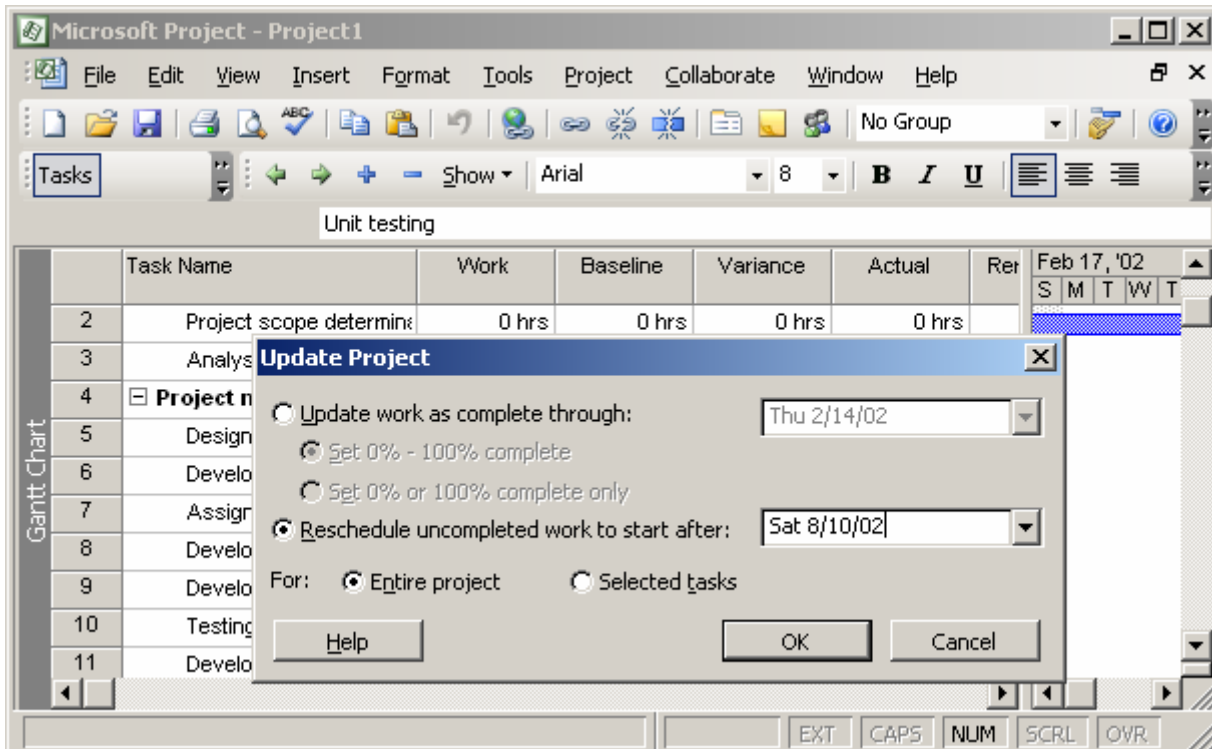

Figure 11.18: Rescheduling Tasks
5. Click the Update Project command on the Tracking submenu, to display the Update Project dialog box. Figure 11.18 displays this dialog box.